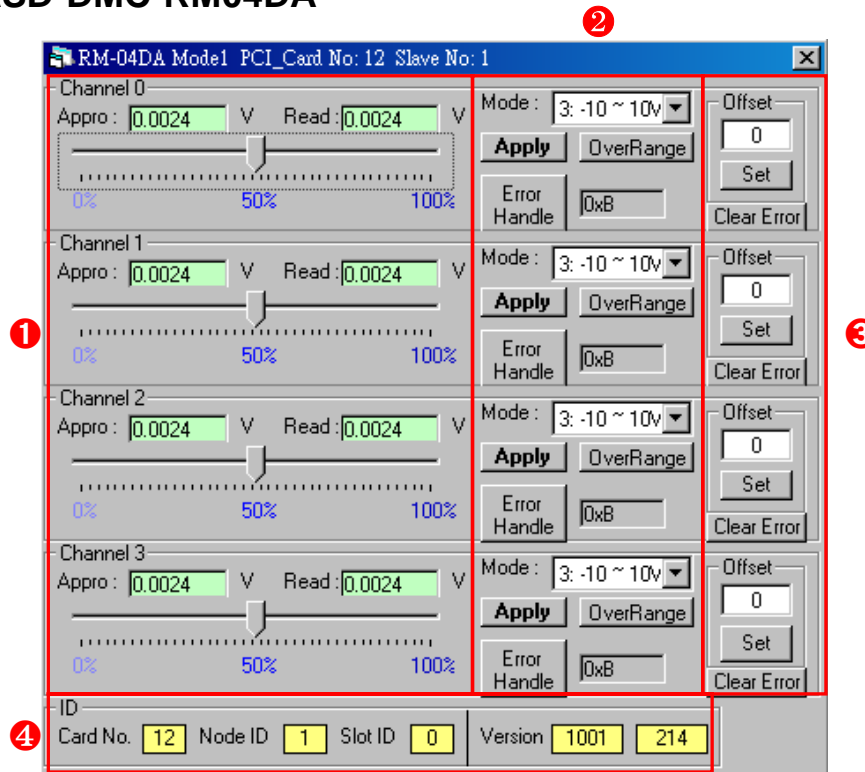

Figure 2.20 RM04DA Control Interface
- ❹ RM04DA module information.
Below is a more detailed description of block ② in Figure 2.20